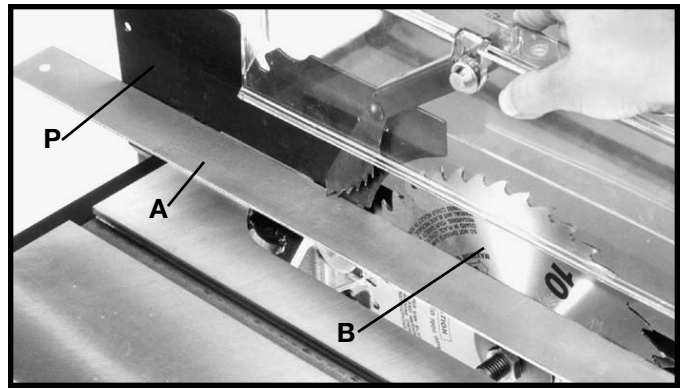
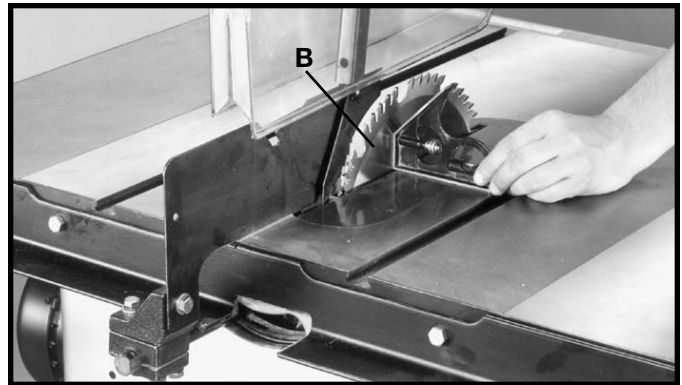
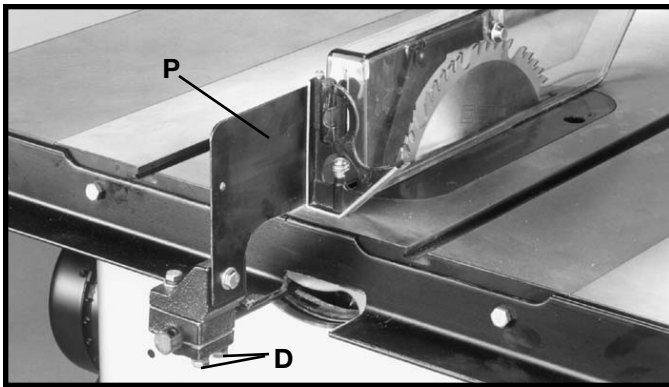

Fig. 24
Fig. 25
Fig. 26
12. Using a straight edge (A) Fig. 24, make certain the splitter (P) is aligned with the saw blade (B). Using a square (C) Figs. 25 and 26, make certain saw blade (B) Fig. 25, and splitter (P) Fig. 26, are 90 degrees to the table surface. Once you are certain the splitter is aligned to the saw blade and table, tighten all splitter mounting hardware (D) Fig. 26 and recheck alignment.